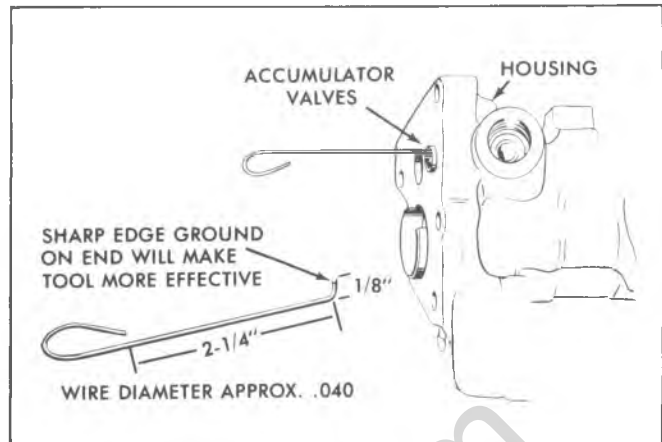
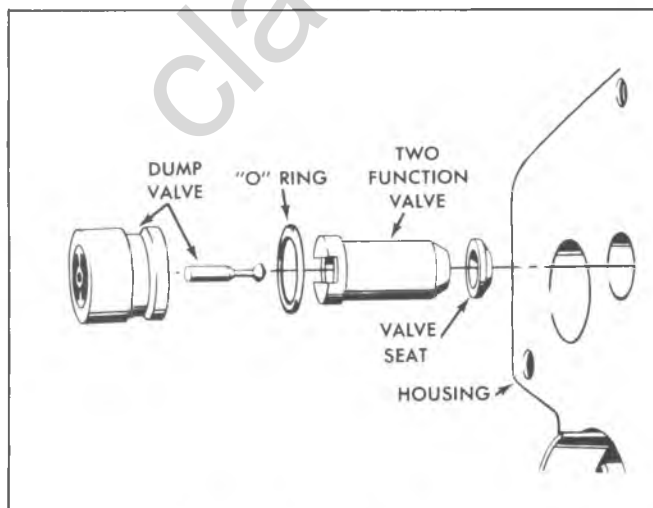

Fig. 5-5E-Removing Accumulator Valves
Fig. 5-8E—Accumulator Valves
15. If accumulator valve was determined to be faulty, remove valve using a small diameter wire tool (fig. 5-5E). Remove the dump valve by catching the tool under the pin guide near the center of the valve, then remove two function valves and seat (fig. 5-8E).
10. If accumulator valve was removed, install new seat into the valve bore. The seat can be forced to the bottom by installing the two function valve (fig. 5-8E). Make certain the check valve seat is cup side up when in bore.